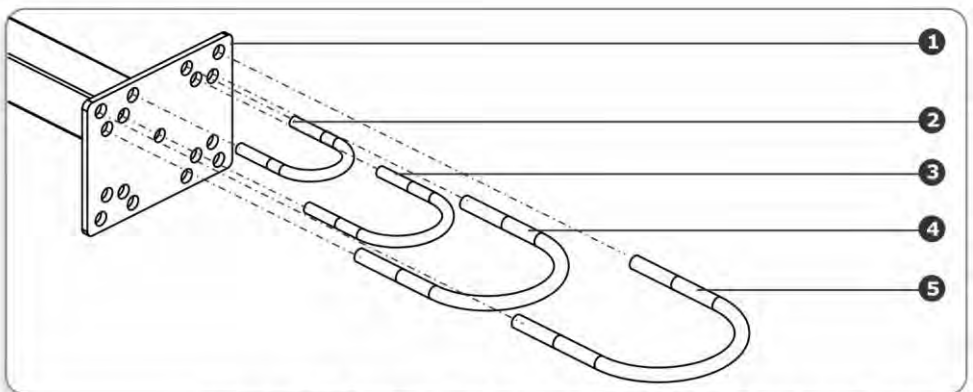

FIGURE. 4. U-BOLTS THAT CAN BE CATERED FOR BY THE FIXED BRACKET
- If the bracket is to be fitted onto a post, then refer to Figure 4 for an indication of the size of the u-bolts, washers and nuts needed. The **Solar Panel Mounting Bracket** is suitable for mounting onto posts with a width or diameter of 40mm to 100mm
- Secure the entire assembly to the post using the appropriate size u-bolts. Refer to Figure 4 for an indication of the size of the u-bolts to be used.
6. Alternatively, if a post (either cylindrical or square) is to be used for mounting, secure the gooseneck to the post using the appropriate size u-bolts. Refer to Figure 4 for an indication of the size of the u-bolts to be used.